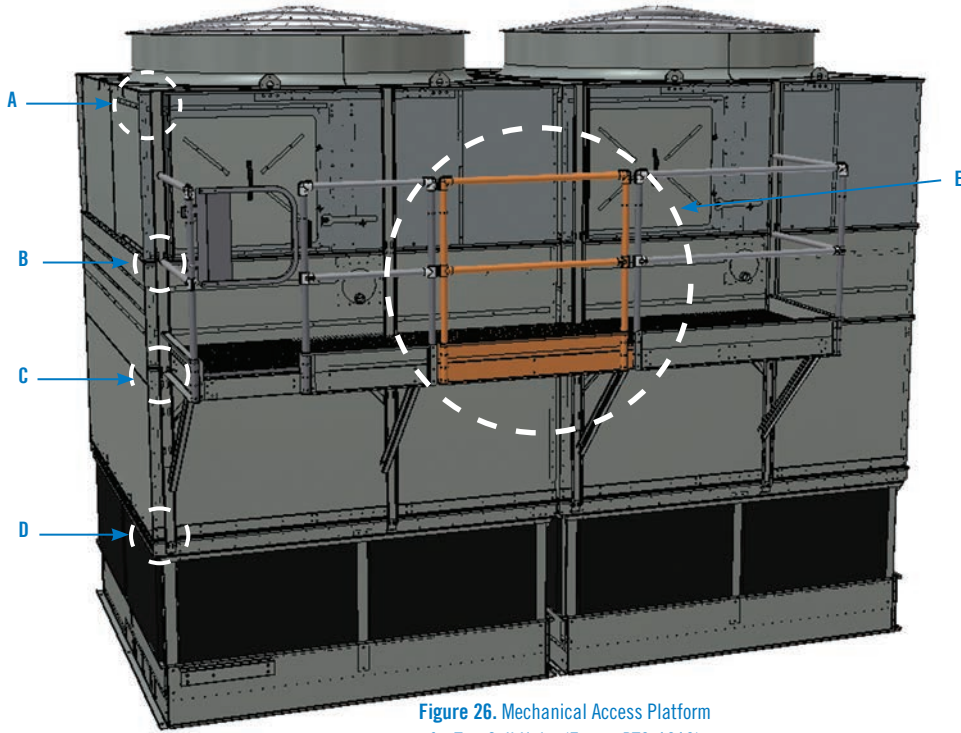

Figure 26. Mechanical Access Platform for Two Cell Units (Except PT2-1218)
4. If applicable, lift the bridge section(s) between the mounted hang-on modules and lower into position so that it rests on support channels. Fasten the bridge section(s) to the support channels at 4 places using 3/8" x 1 1/4" hardware supplied. See **Detail E (Figures 26, 27, 29, 30, 31, 32, and 33)**.